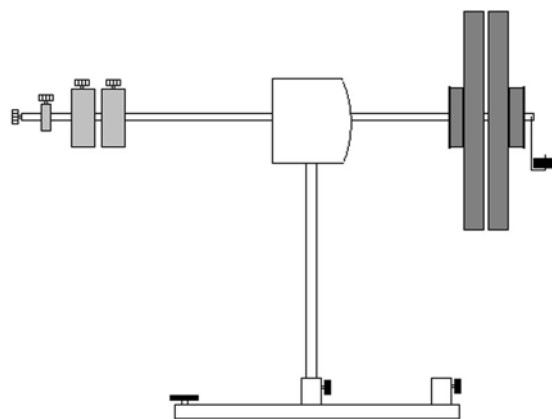

Fig. 4: Cancellation of gyroscopic forces
- As shown in Fig. 4, slide a second disc and counterweight along the axis and secure with the locking ring.